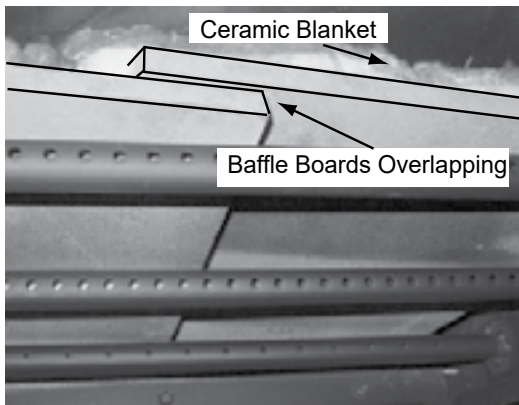

Figure 25.1
3. Once the baffle protection cover has been removed, pull the baffle boards and ceramic blanket forward about 1 inch (25mm) and then overlap the baffles about 1-2 inches (25-51mm) (**Figure 25.1**).